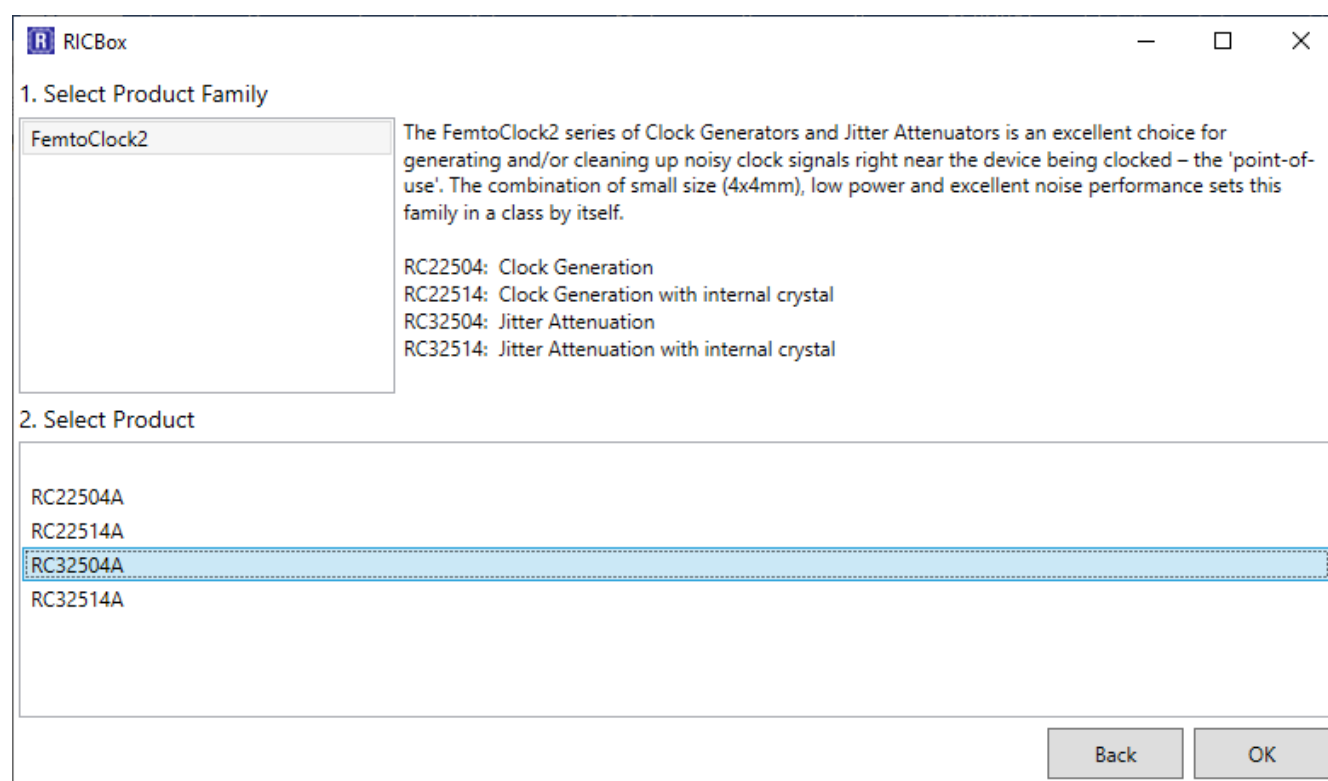

Figure 4. RICBox –Select Product Family and Specific Product
First, select a Product Family. When this is a new RICBox installation and only the FemtoClock 2 GUI is installed, the screen should look exactly like Figure 4 with only the FemtoClock 2 Family showing at item 1.